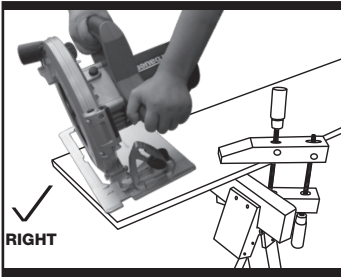
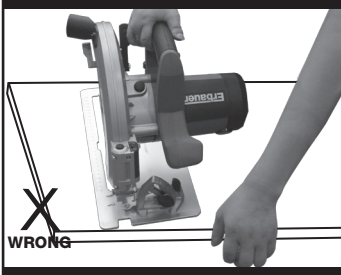

Fig. 3-1
Fig. 3-2
Always hold your saw firmly with both hands when operating. The right and wrong ways to support large work pieces are shown in Fig.3-1 and Fig. 3-2.
Adjusting the angle of the base plate (14) enables bevel cutting. The base plate (14) must always be held firmly against the material being cut to reduce saw vibration, blade jumping or blade breakage (See Fig. 3-1).